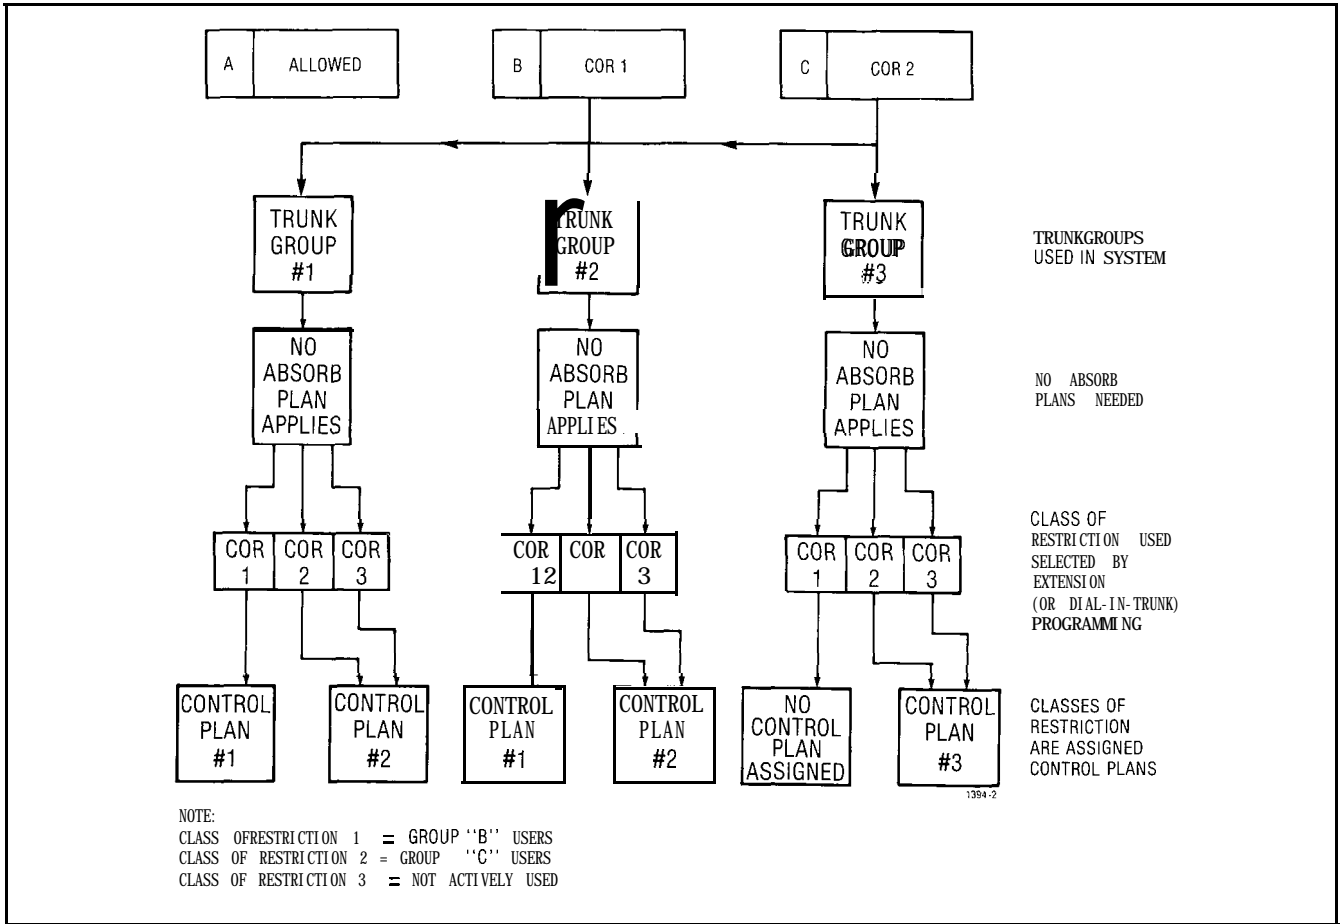

Fig. 5-4 Diagram of Basic Toll Control Paths
First, it can be seen that no digit absorbs will be required. Therefore, no Absorb Plans need be defined or assigned to any Trunk Groups. This is shown in Figure 5-4.
5.14 At this point, the major paths taken in any trunk-dialing instance have been defined. The Control Plans needed must now be assigned and programmed. A different Control Plan is needed for each different allow/deny requirement of the Levels of Restriction. Figure 5-4 shows a possible Control Plan assignment. Note that even though Class of Restriction 3 is not actively used, it must be assigned a Control Plan number. In this case it has been assigned the same Control Plan as Level of Restriction.